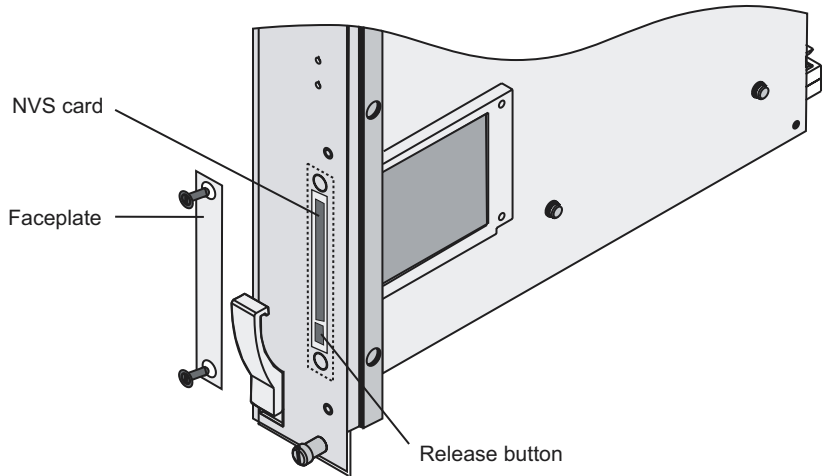

Figure 7-1 NVS card slot on SRP module
- 2 With a small flathead screwdriver, remove the faceplate from the NVS card slot on the SRP module (see Figure 7-1).
- 3 Use the screwdriver to depress the button next to the NVS card (see Figure 7-1).